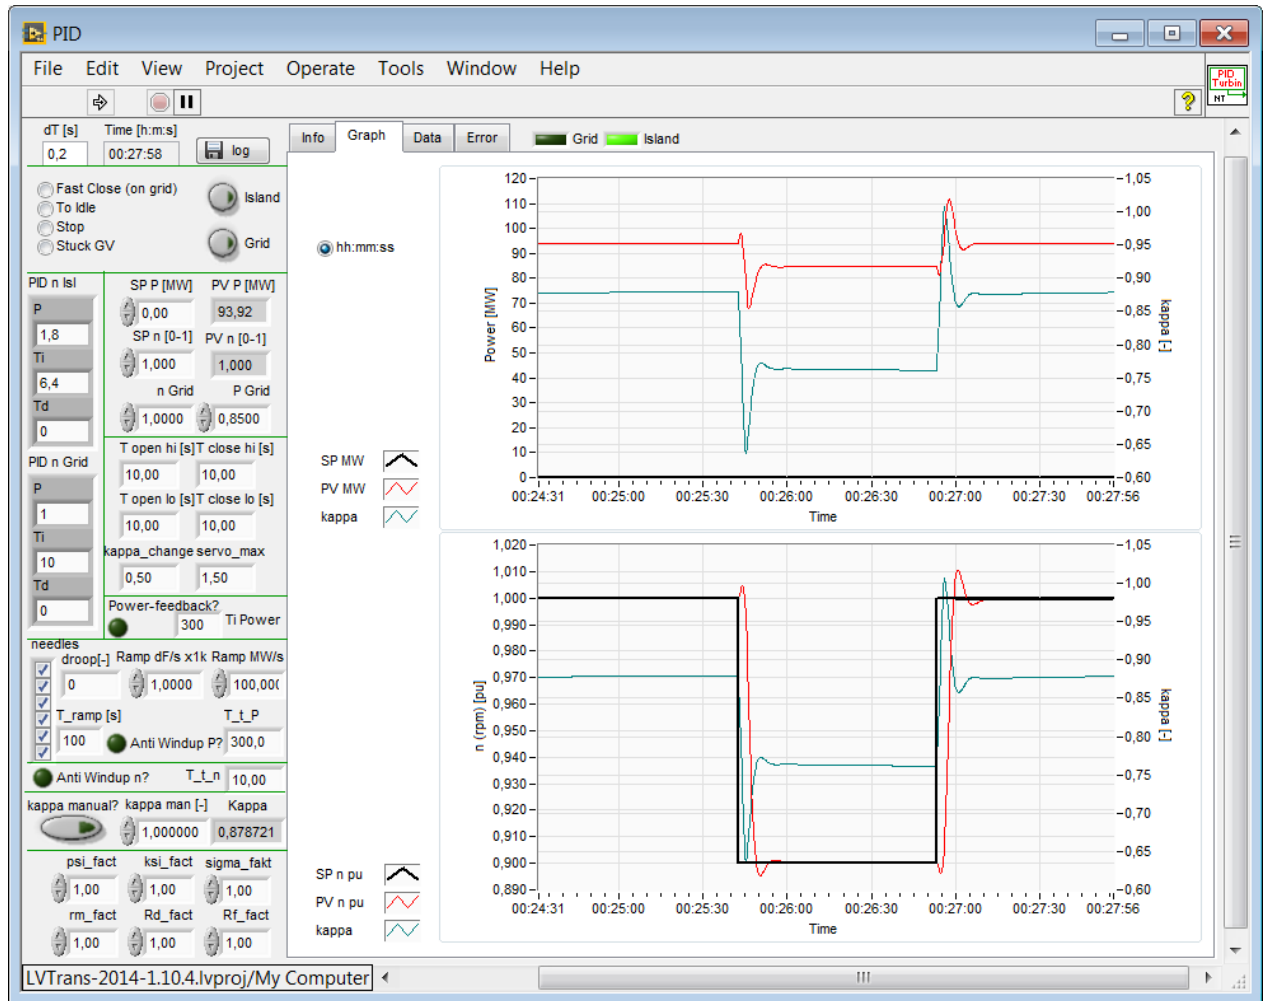

Figure 11.7 Finished tuned PI, point 8 after method 2
7. Set $K_p = 1.2 * P_c$ ($P = 1,2 * 1,5 = 1,8$ in this example), see Figure 11.7